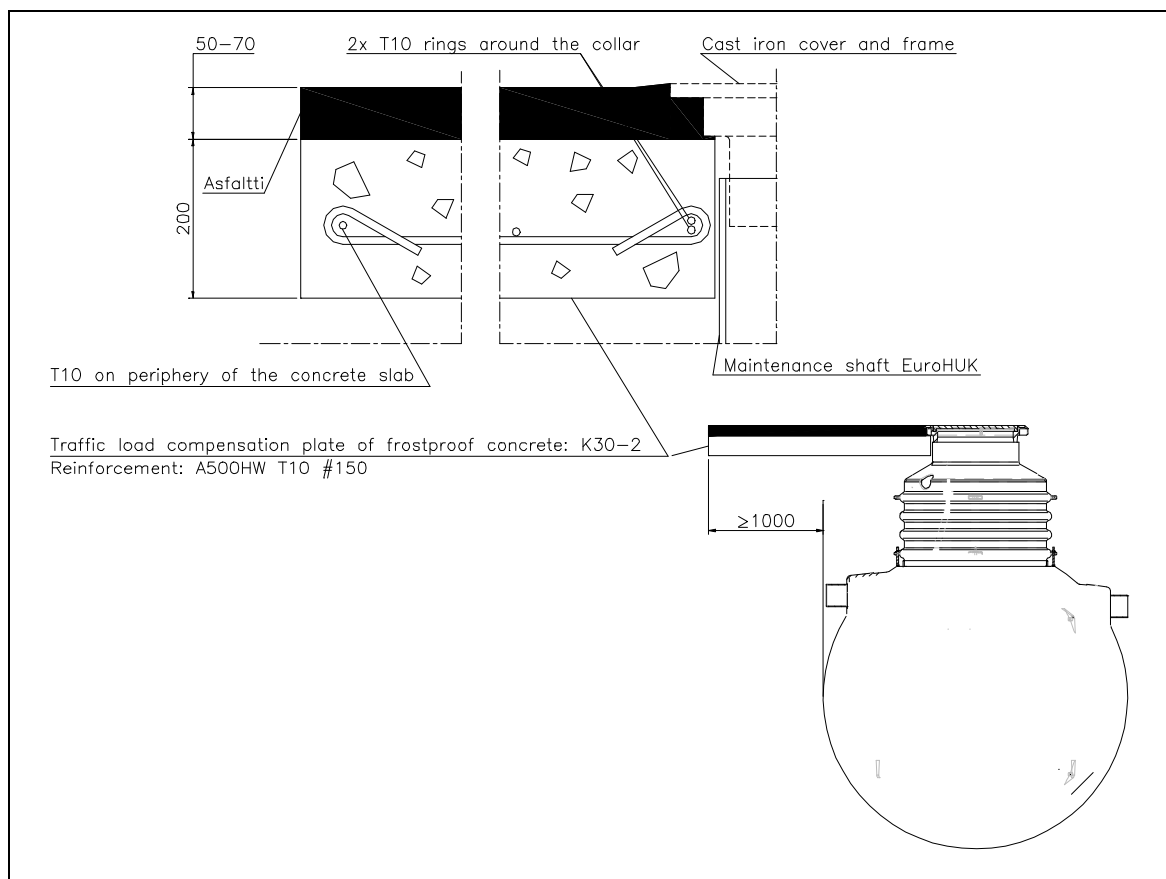

Figure 5. Construction of the load compensating plate
9. In an area of heavy and medium weight traffic, a load compensation plate and a layer of asphalt must be laid to equalize the wheel loads. (Figure 5)